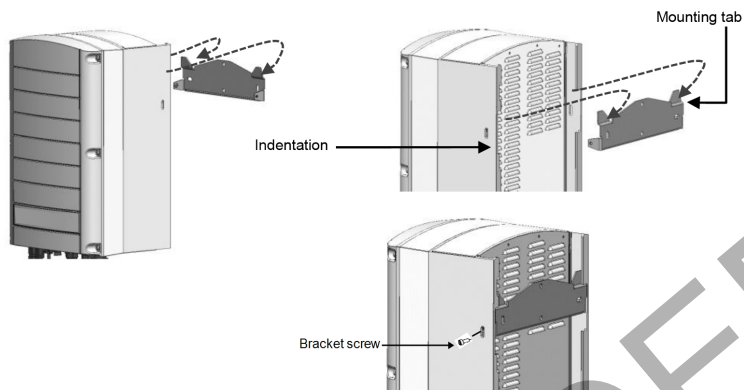

Figure 10: Hanging the inverter on the bracket
- Ensure that the flat edge of the bracket is at the bottom, as in *Figure 10*.
5. Hang the inverter on the bracket (see *Figure 10*): Lift the inverter from the sides, or hold it at the top and bottom of the inverter to lift the unit into place. Do not lift holding the Connection Unit/DC Safety Unit as it may be damaged.
9. Insert the two supplied screws through the outer heat sink fin on both sides of the inverter and into the bracket (see *Figure 10*). Tighten the screws with a torque of 4.0 N*m / 2.9 lb.*ft.